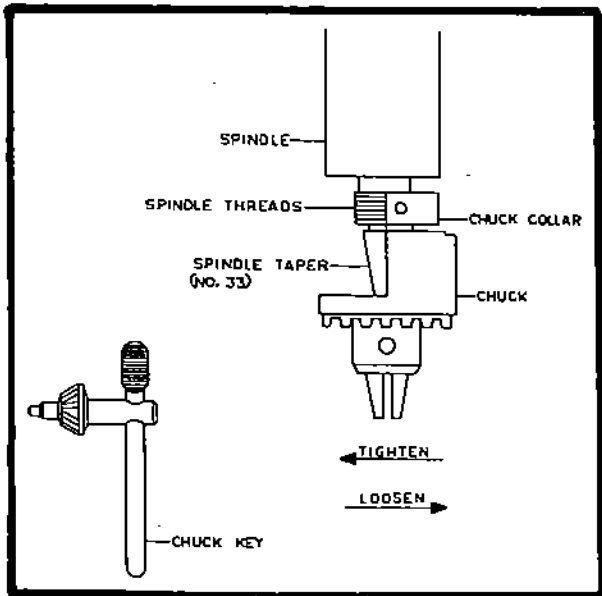

Figure 5
- a. Wipe off the No. 33 spindle taper and tapered socket in chuck body (Fig. 5) with a clean cloth. Make sure no foreign particles are left on these surfaces which could prevent proper seating of the two parts.
- b. Apply a light film of oil on the spindle taper and place chuck on end of spindle (Fig. 5). Screw chuck collar on to the threads at end of spindle. Hold spindle pulley with one hand to keep spindle from rotating and tighten the chuck collar with drill chuck key.
- c. When removal of the chuck is required—disconnect power source. Hold top spindle pulley with one hand and using chuck key handle, loosen chuck collar by turning counter-clockwise (Fig. 5). Continued rotation of the collar will force the chuck off tapered spindle. **NEVER** attempt to drive or wedge chuck off as damage could result to chuck, spindle nose, and spindle bearings.